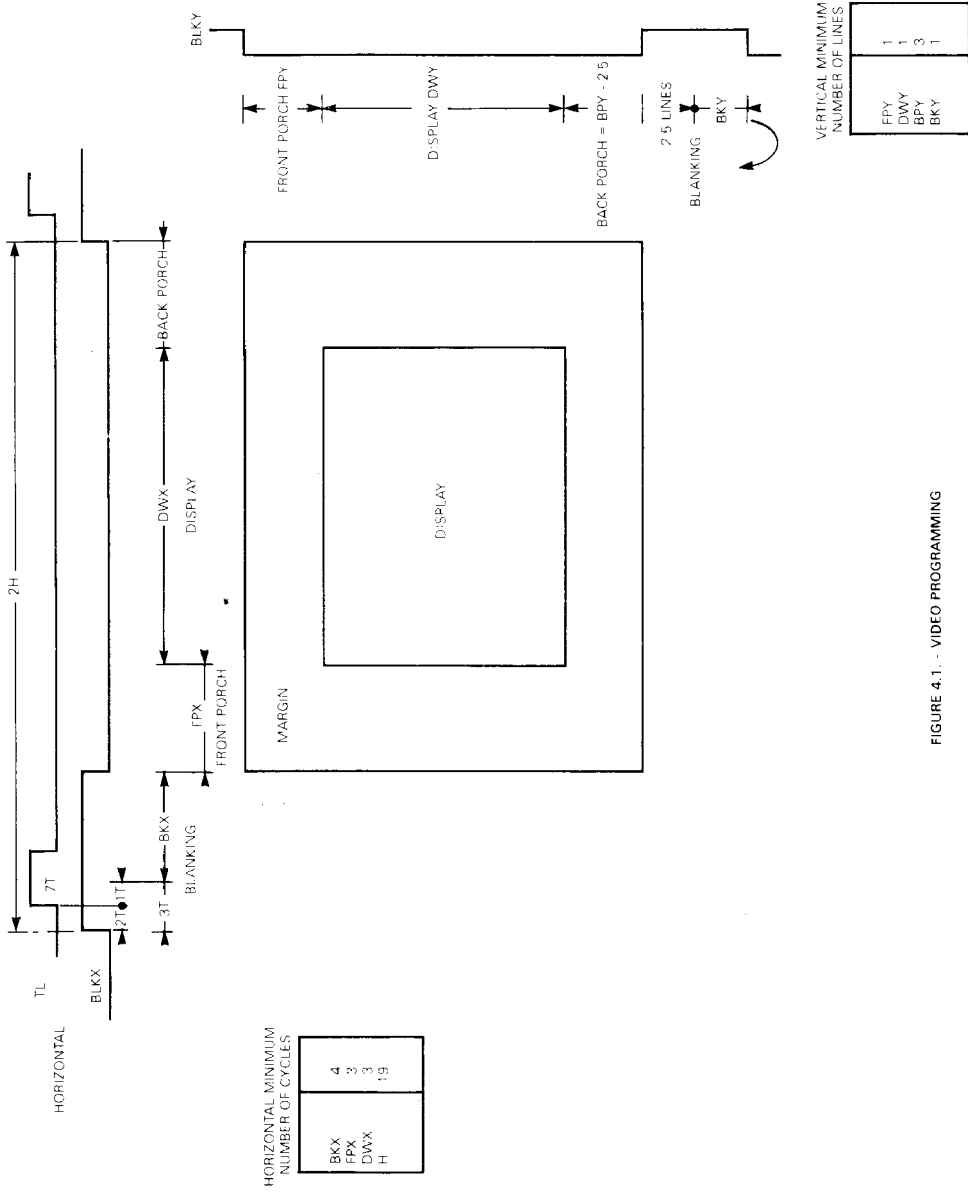

FIGURE 4.1. - VIDEO PROGRAMMING
4.2.4. Memory time sharing (See figure 4.1)